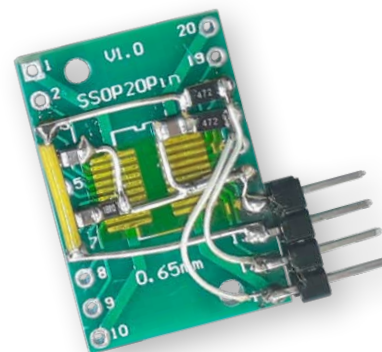

Figure 7: DIY sensor module, rear side.
2.54 mm) and also included the few other components on the module in SMD (**Figure 7**). The I²C device address is irrelevant, as the software determines the correct address at startup, so that the ADDR pin can be connected to GND.